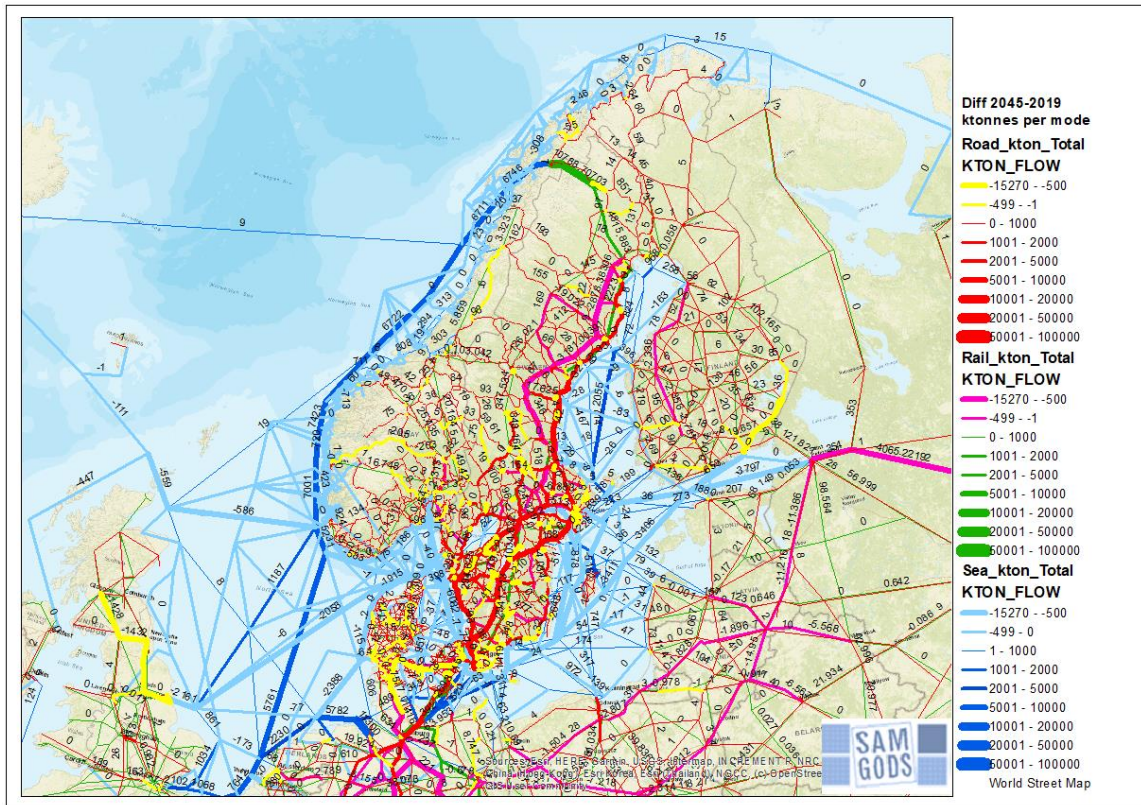

Figure 115 Standard map on ktons for total and commodity groups
3) Data Panel\Scenario Outputs\Compare\GIS maps – for differences on total Ktons by commodity group, see Figure 115.